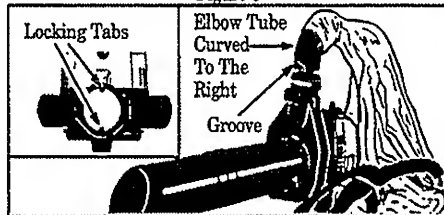

Figure 7
5. Align grooves on the elbow tube with the locking tabs inside the blower outlet. Figure 7 (inset). For proper alignment, be sure elbow tube is curved to the right as shown in Figure 7. Insert the elbow tube into the blower outlet; twist the elbow tube counterclockwise until the parts snap together.